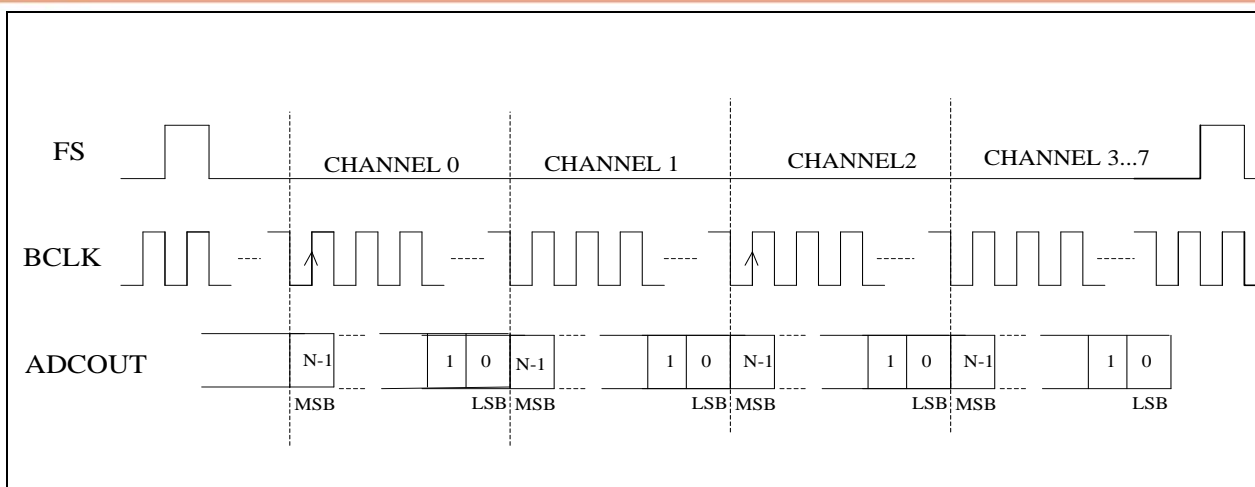

Figure 36 PCM Time Offset Audio Data
Normally, the DAC and ADC data are clocked immediately after the Frame Sync (FS). In this mode, audio data are delayed by a delay count specified in the device control registers. The Channel 0 MSB is clocked on the BCLK rising edge defined by the delay count set in [LEFT_TIME_SLOT_TSLOT_L0_REG0XF\[9:0\]](#). The subsequent channel's MSB is clocked on the next BCLK after the LSB of the previous channel. This can be seen in **Figure 36**.